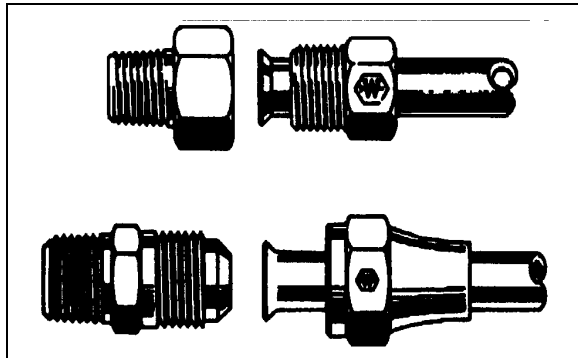

FIGURE 23: HOSE FITTINGS 12053
**1. 45° Flare and Inverted Flare:** Tighten assembly with a wrench until a solid feeling is encountered. From that point, tighten 1/6 turn (Fig. 23).